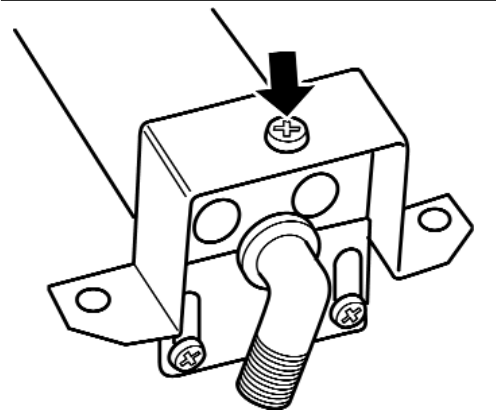

Figure 31. Injector removal
2. Remove the burner clamping screw (See figure 31)